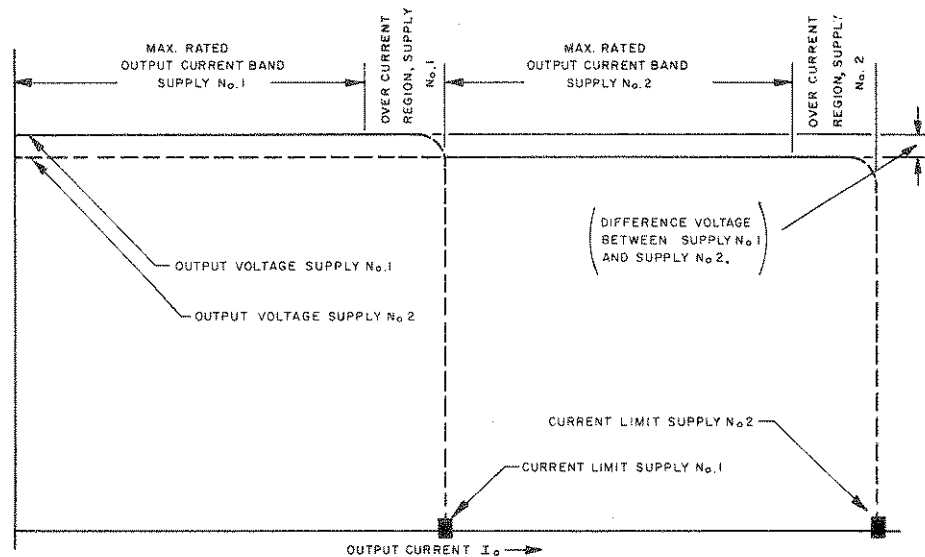

FIG. 3-12 "AUTOMATIC" PARALLEL OPERATION (TWO SUPPLIES).
**NOTE:** The diagram below (refer to FIG. 3-12) shows how the two power supplies operate in the parallel mode. As seen from FIG. 3-12, load variations should be confined within the stabilization region of SUPPLY #2 since there is an initial adjustment error ( $\Delta E_0$ ) between the two supplies.